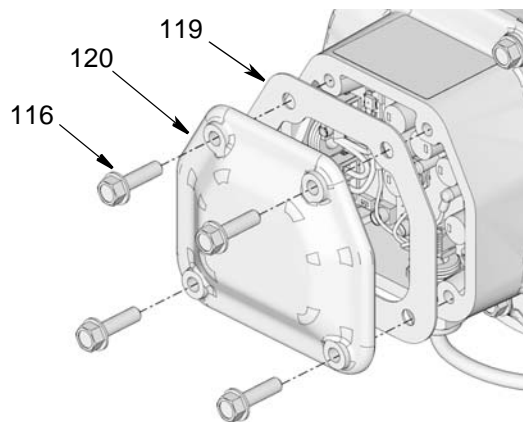

FIG. 3
4. Replace motor control board gasket (119) and cover (120) with screws (116) (FIG. 3) being careful not to pinch any wires. Tighten bolts securely. Torque to 17 - 19 ft lbs (23 - 25 N.m).